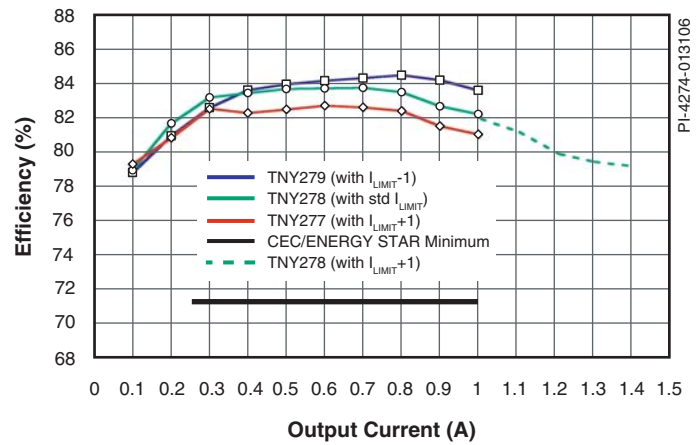

Figure 2. Operating Efficiency vs  $I_{LIMIT+}$ ,  $I_{LIMIT-}$  and Device Size.
- In the TinySwitch-III family of devices, the MOSFET current limit can be selected from 3 levels by the value of capacitance on the BP/M pin. This gives the designer a number of options, which are shown in Figure 2. First, a TNY279 could be used, with the current limit of a TNY278, to obtain higher efficiency. Second, a TNY277 could be used, with the current limit of a TNY278, to deliver the same power at a lower efficiency. Lastly, a TNY278 could be used, with the current limit of a TNY279, to extend the power capability of the supply\*.